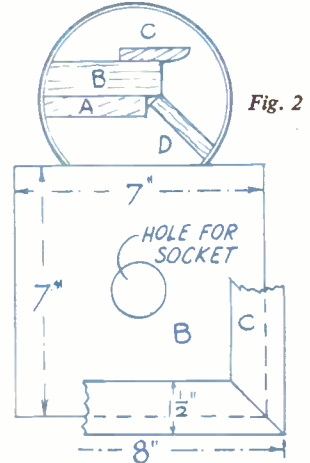
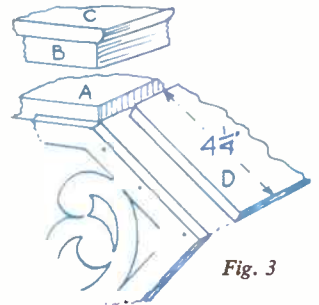

Fig. 2
Fig. 3
larger has been glued, see also the sectional diagram in Fig. 2. Then above piece (B) is glued a third member in the form of a square frame, made up of four strips of narrow wood about $\frac{3}{8}$ in. thick,
The panels are connected at the top and bottom by a 7in. square of wood (A), Fig. 2, to which a stouter piece (B), $\frac{1}{2}$ in.
mitred at the ends and glued together (see plan, Fig. 2.) After the parchment or other type of paper has been glued to the inside face of the back and front panels, the latter are glued and screwed to member (A) at top and bottom.
The manner of inserting the side panels (D), whether all eight are used or only the four, is shown in Fig. 3, and again in the circled diagram in Fig. 2. Fret pins may be put through the front and back panels into these side panels in addition to glue. Note the hole to be made in pieces (A) and (B) for the insertion of the electric bulb fitting.